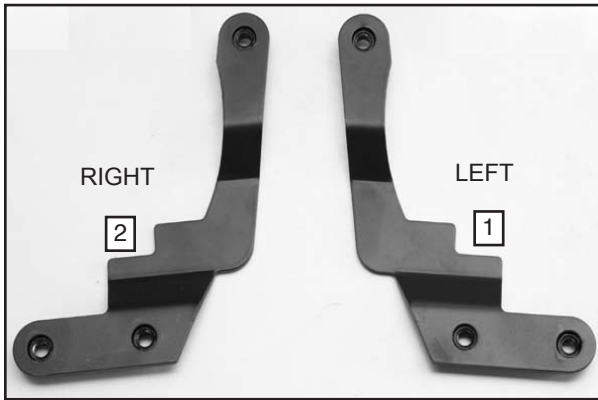

Figure 4
1. Identify Left Bracket Arm. **Figure 4**